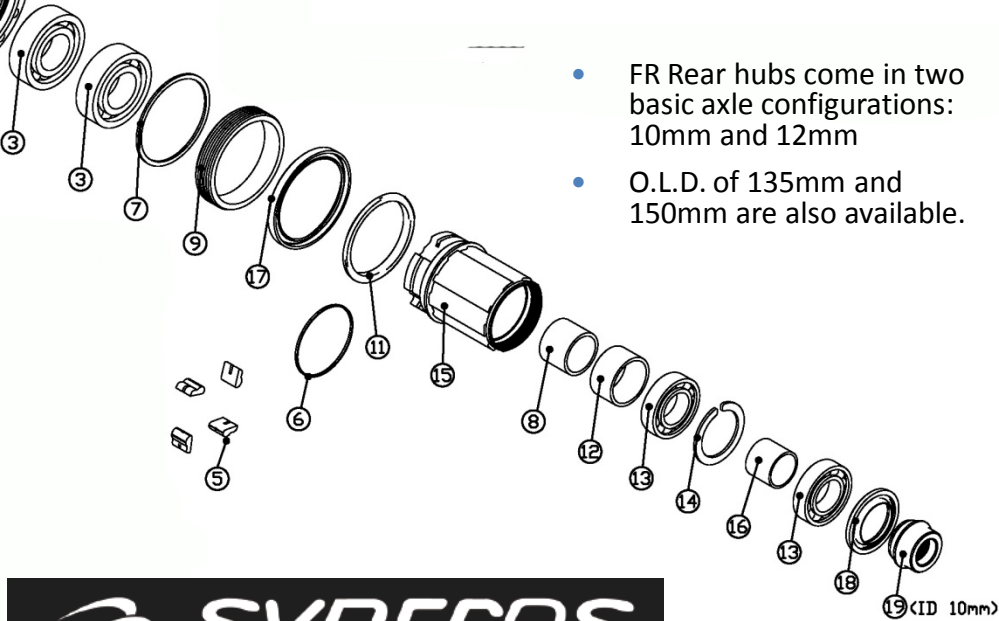

Fig.3 FR Rear Hub (10mm I.D.)
- See Figures 3 and 4 for 3D exploded diagrams of FR Rear Hubs.